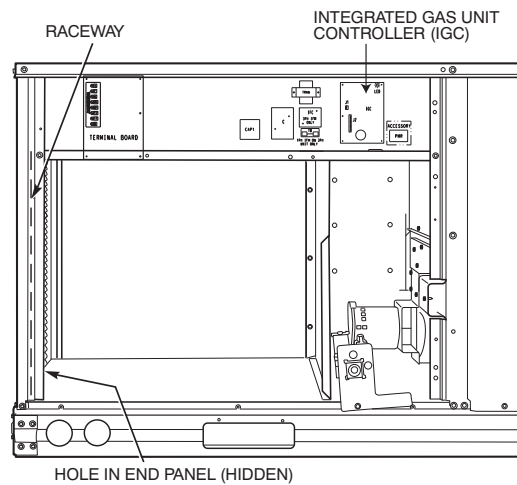
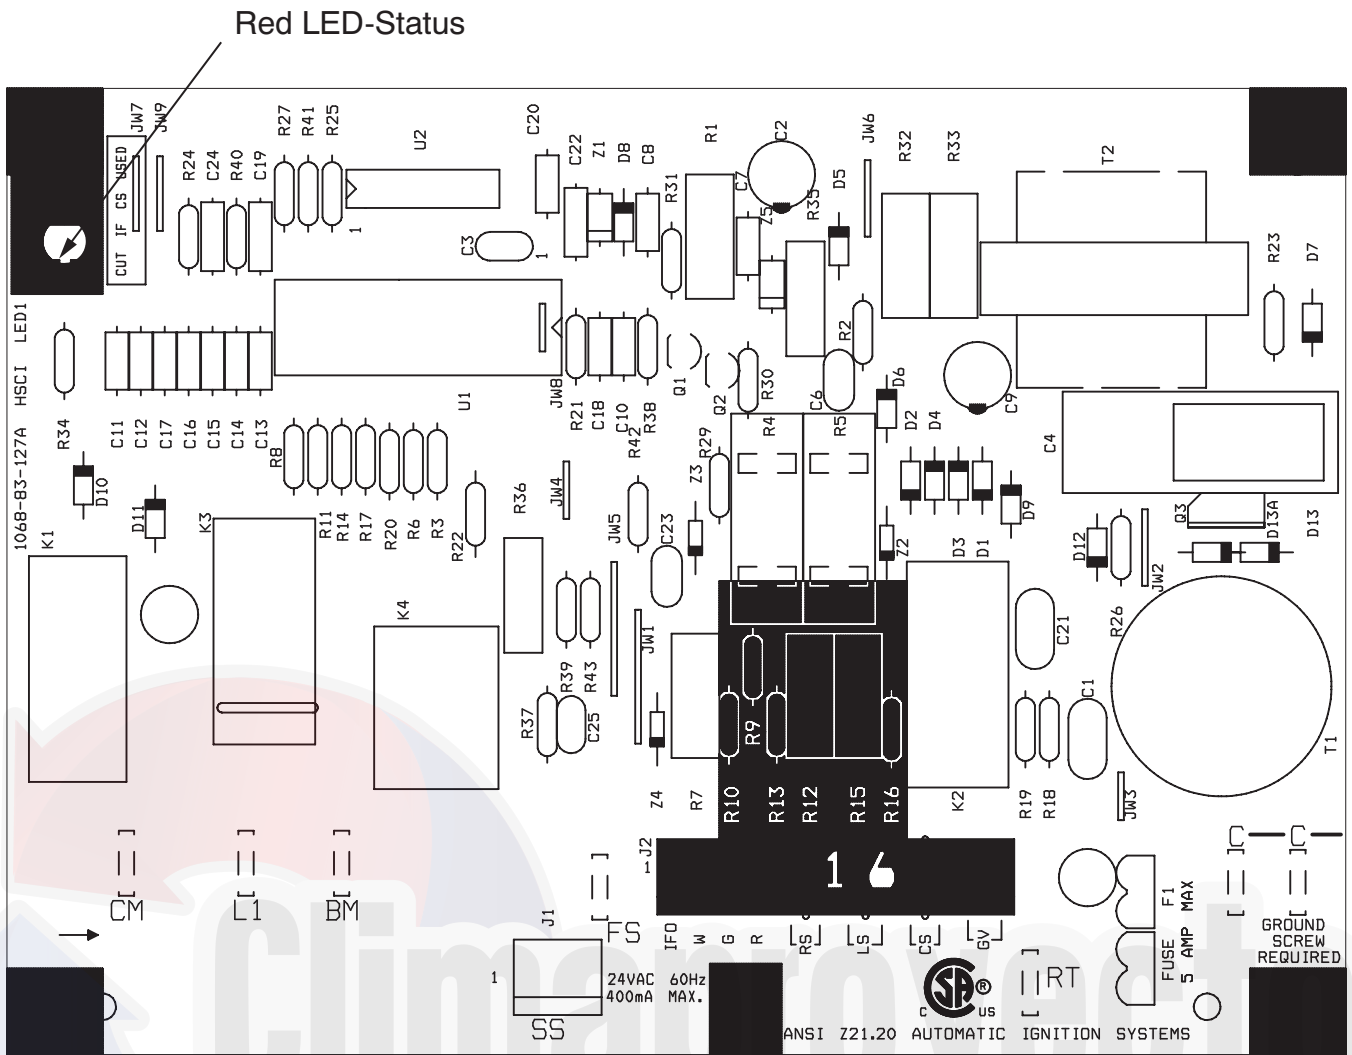

Fig. 64 - Unit Control Box/IGC Location
Fig. 69 - Integrated Gas Control (IGC) Board
6. Remove igniter wires and sensor wires at the Integrated Gas Unit Controller (IGC). See Fig. 64.
Unit is equipped with a direct spark ignition 100% lockout system. Integrated Gas Unit Controller (IGC) is located in the control box. See Fig. 64. The IGC contains a self-diagnostic LED (light-emitting diode). A single LED (see Fig. 69) on the IGC provides a visual display of operational or sequential problems when the power supply is uninterrupted.